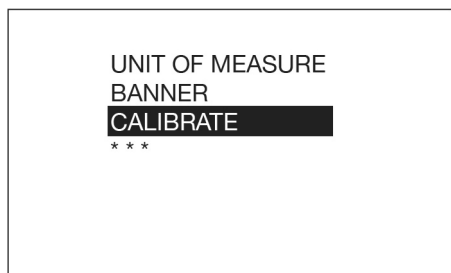

FIG. 19
6. Select the CALIBRATE option (Fig. 19).